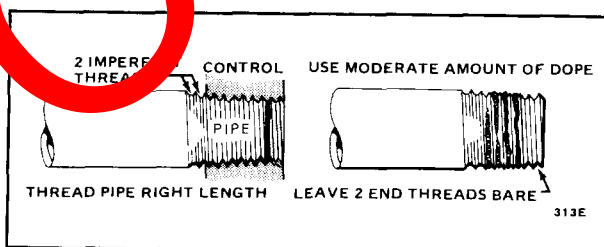

FIG. 11—USE MODERATE AMOUNT OF PIPE COMPOUND.
4. Apply a moderate amount of good quality pipe compound to pipe only, leaving two end threads bare. DO NOT USE TEFLON TAPE. In LP installations, use compound resistant to LP gas. Refer to Fig. 11.